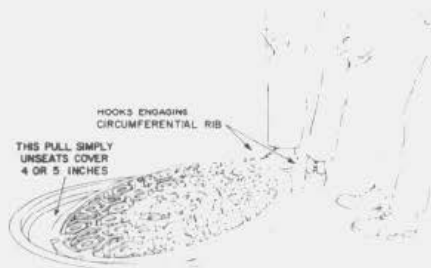
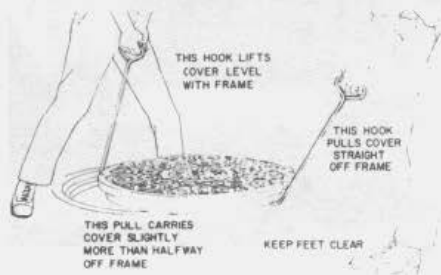

Fig. 35—Unseating Cover—Two-Person Method
Fig. 36—Sliding Cover Partially Clear of Frame—Two-Person Method
(2) Unseat the cover as shown in Fig. 35.
(3) While one craftsman holds the cover in the position shown in Fig. 35, the other craftsman releases the manhole hook, moves around to the opposite side, and (while facing the first person) engages the hook under the rim of the cover as shown in Fig. 36.